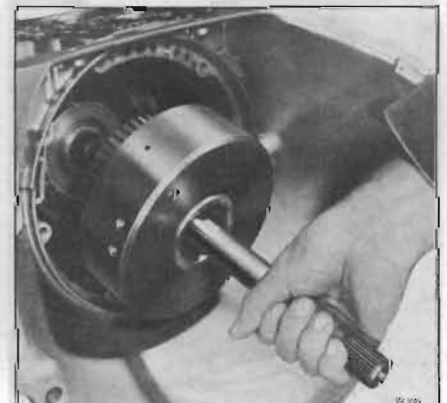

Figure 74-762
20. Install the forward clutch and turbine shaft assembly, indexing the direct clutch hub so end of the mainshaft will bottom on end of the forward clutch hub. When forward clutch is seated it will be approximately 1-1/4" from pump face in case. See Figure 74-762.